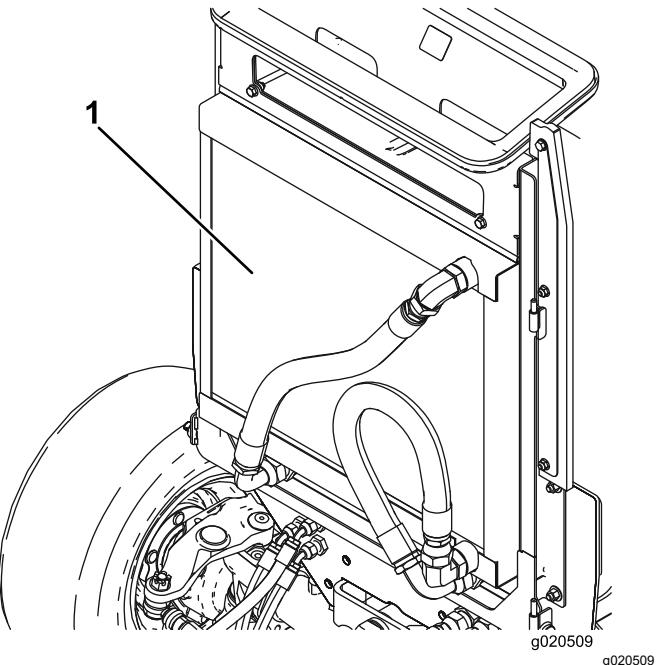

Figure 146
6. Clean both sides of the oil cooler/radiator area (Figure 146) thoroughly with compressed air. Start from the front and blow the debris out toward the back. Then clean from the back side and blow toward the front. Repeat the procedure several times until all chaff and debris is removed.